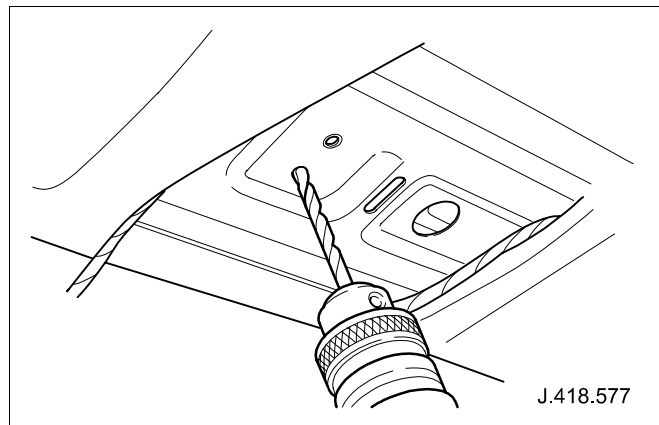

Fig. 11
- 28 Using the drill removed from the hole saw, open up pilot hole in strengthening panel. (See Fig. 11)